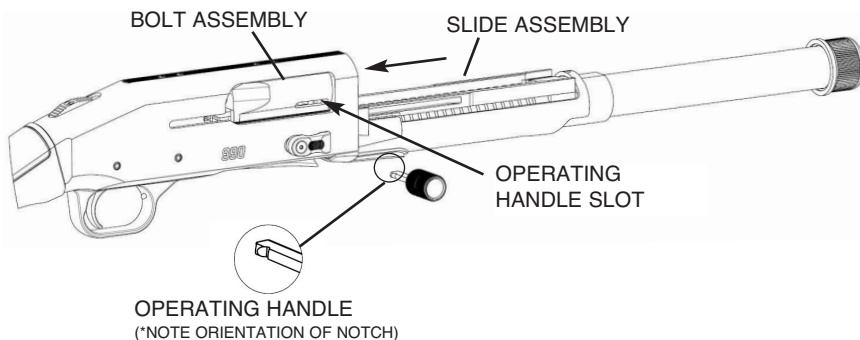

Figure 16
2. Install the bolt and slide assemblies into the front of the receiver through the opening for the barrel. The slide assembly may need to be “wiggled” side to side in order to engage the tracks in the receiver. The bolt assembly will stop when it is nearly flush with the front of the receiver. Press the bolt release, this will allow the action to seat in the receiver. Push the bolt assembly rearward into the receiver just far enough for the operating handle slot to become fully visible (Figure 16).